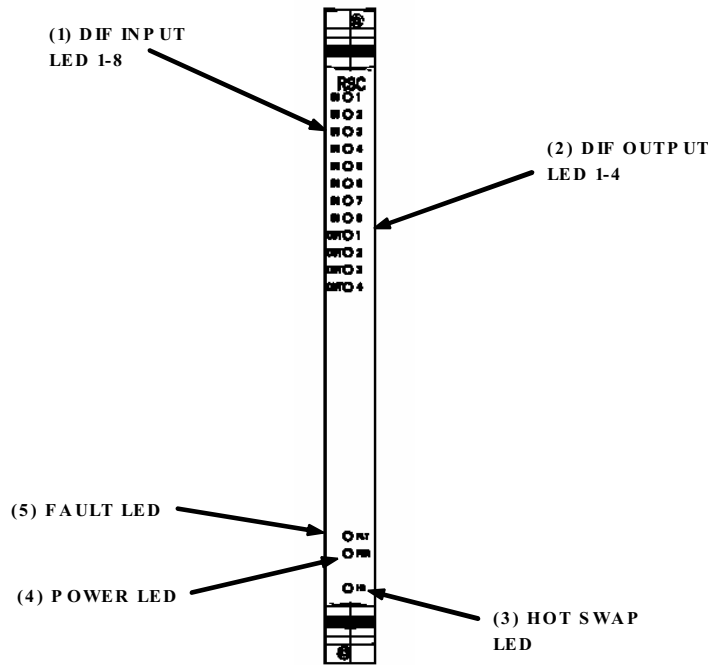

Figure 2-19. RSC Module
The Reverse Simulcast Card (RSC) is shown in Figure 2-19. The RSC sums the Digital IF (DIF) from up to four (4) RANs into a single DIF signal that is sent to the HUC via DIF cables and the chassis rear panel for conversion to RF. The RSC is utilized in the Digital Chassis and is specified as one per tenant per sector per 4 RANs, plus an additional one RSC for RANs 5-7, and an additional one RSC for RAN 8. The references for the RSC are shown in Table 2-13.